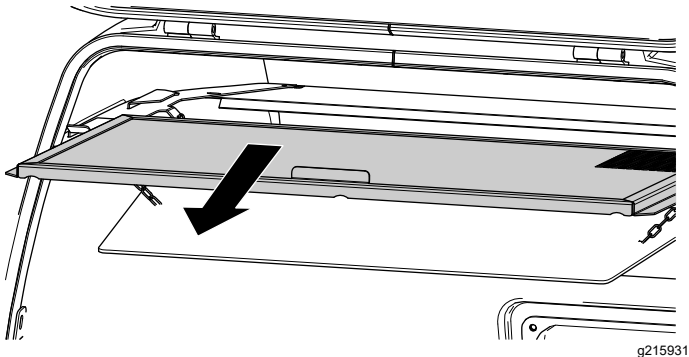

Figure 139
3. Remove the hopper screen and clean it (Figure 139).